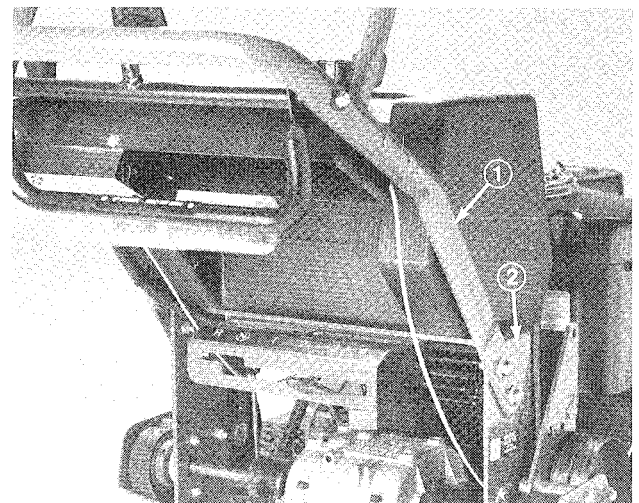

Figure 4
1. Align upper handle mounting holes with desired mounting holes in frame (upper or lower set of holes) and secure each side with (2) 3/8 -16 x 1" lg. flange capscrews and flange nuts (Fig. 4).